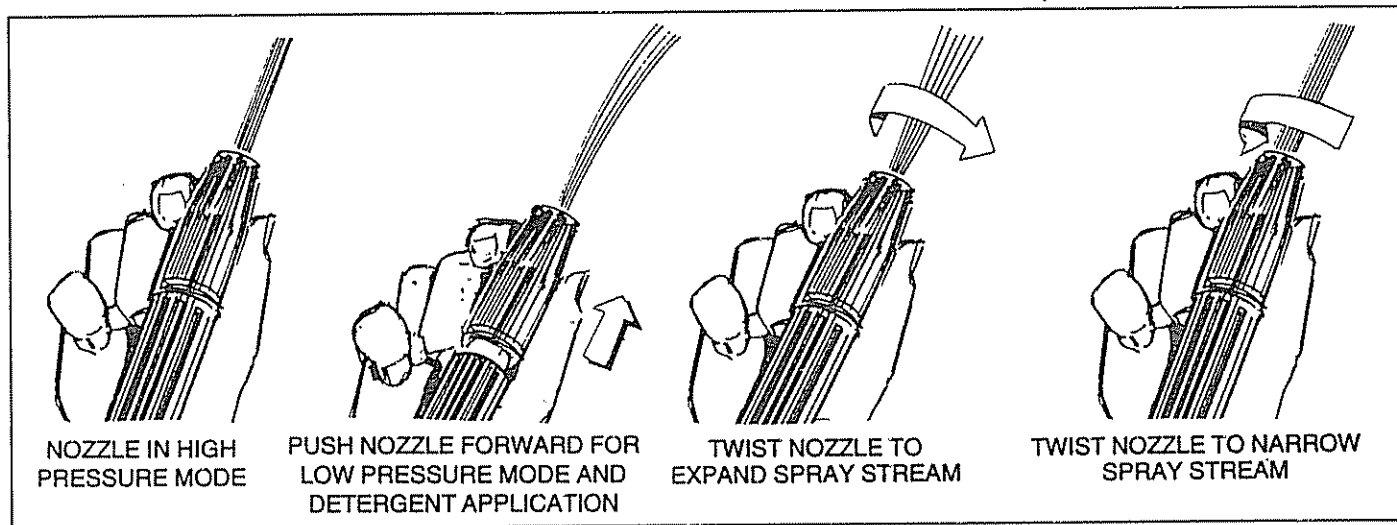

FIG. 9
- Push the nozzle attachment forward when you wish to adjust the spray to low pressure mode (Fig. 9). Pull the nozzle backward to achieve high pressure.
- Set nozzle to low pressure mode. Detergent cannot be siphoned with nozzle in high pressure mode (see Fig. 9).
- Adjust nozzle to select high pressure mode (see Fig. 9).
WARNING: NEVER ADJUST SPRAY PATTERN WHEN WATER IS SPRAYING. NEVER PUT HANDS IN FRONT OF SPRAY NOZZLE TO ADJUST SPRAY PATTERN. ALWAYS KEEP HANDS IN THE POSITION SHOWN IN FIG. 9